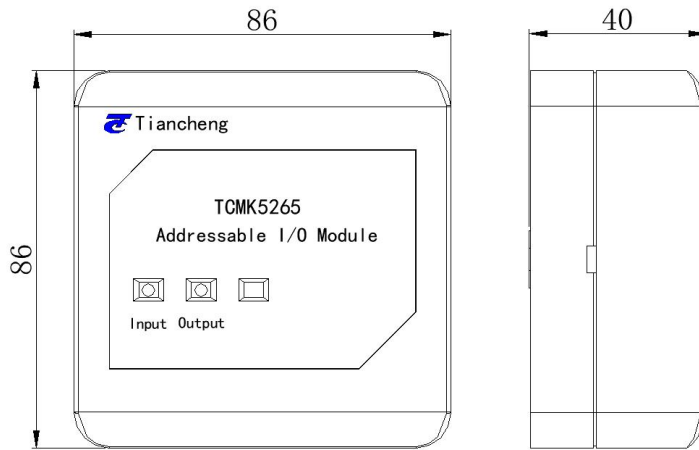

Fig.1 Outline of Module
1. The outline sketch map of this module is shown as Fig 1.